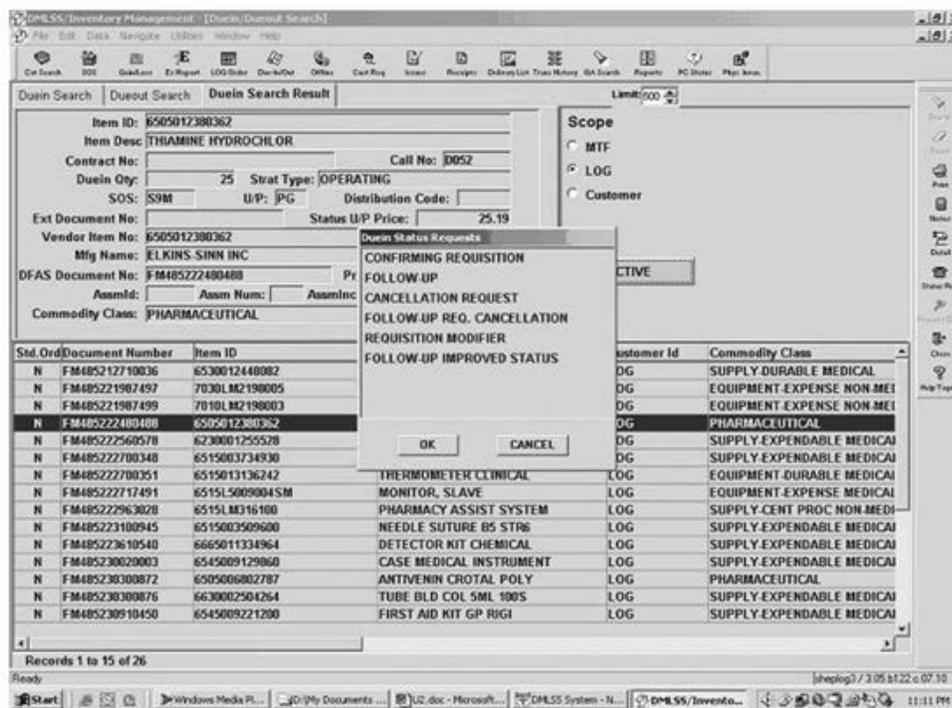

Figure 2-1. DUE-IN STATUS REQUESTS window.
4. Click on the STATUS REQ button on the vertical toolbar to open the DUE-IN STATUS REQUESTS window (fig. 2-1) and select FOLLOW-UP.